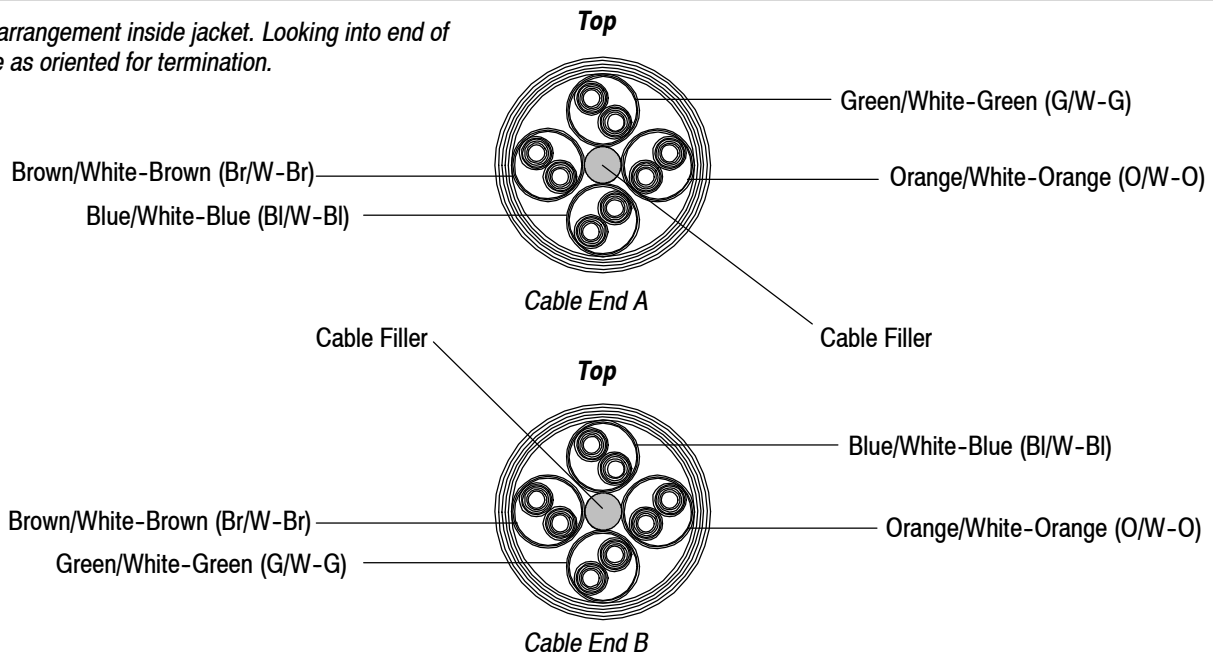

Figure 2
6. Cable Pair Arrangement: The arrangement of color-coded pairs within the cable jacket applicable to TIA/EIA T568B wiring and the termination procedures described in this specification is shown in Figure 2. Cable end A applies to one end of the cable and cable end B to the opposite end. For TIA/EIA T568A wiring or termination of cables with pair arrangements other than shown in Figure 2, contact the responsible TE Engineering Department.